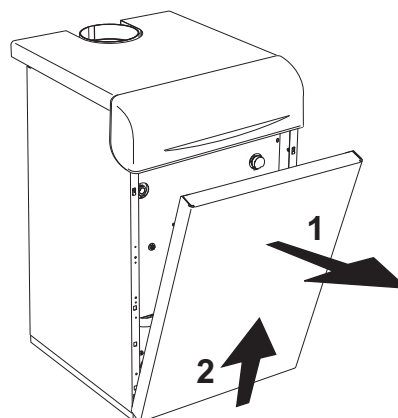

fig. 49 - Front panel opening
To open the boiler front panel, see the sequence in fig. 49.
- Remove the front panel of the boiler (fig. 49).